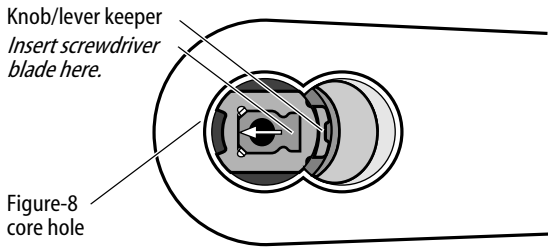

Figure 10 Removing the outside knob/lever
- 3 Press the screwdriver blade in the direction of the arrow in Figure 10.